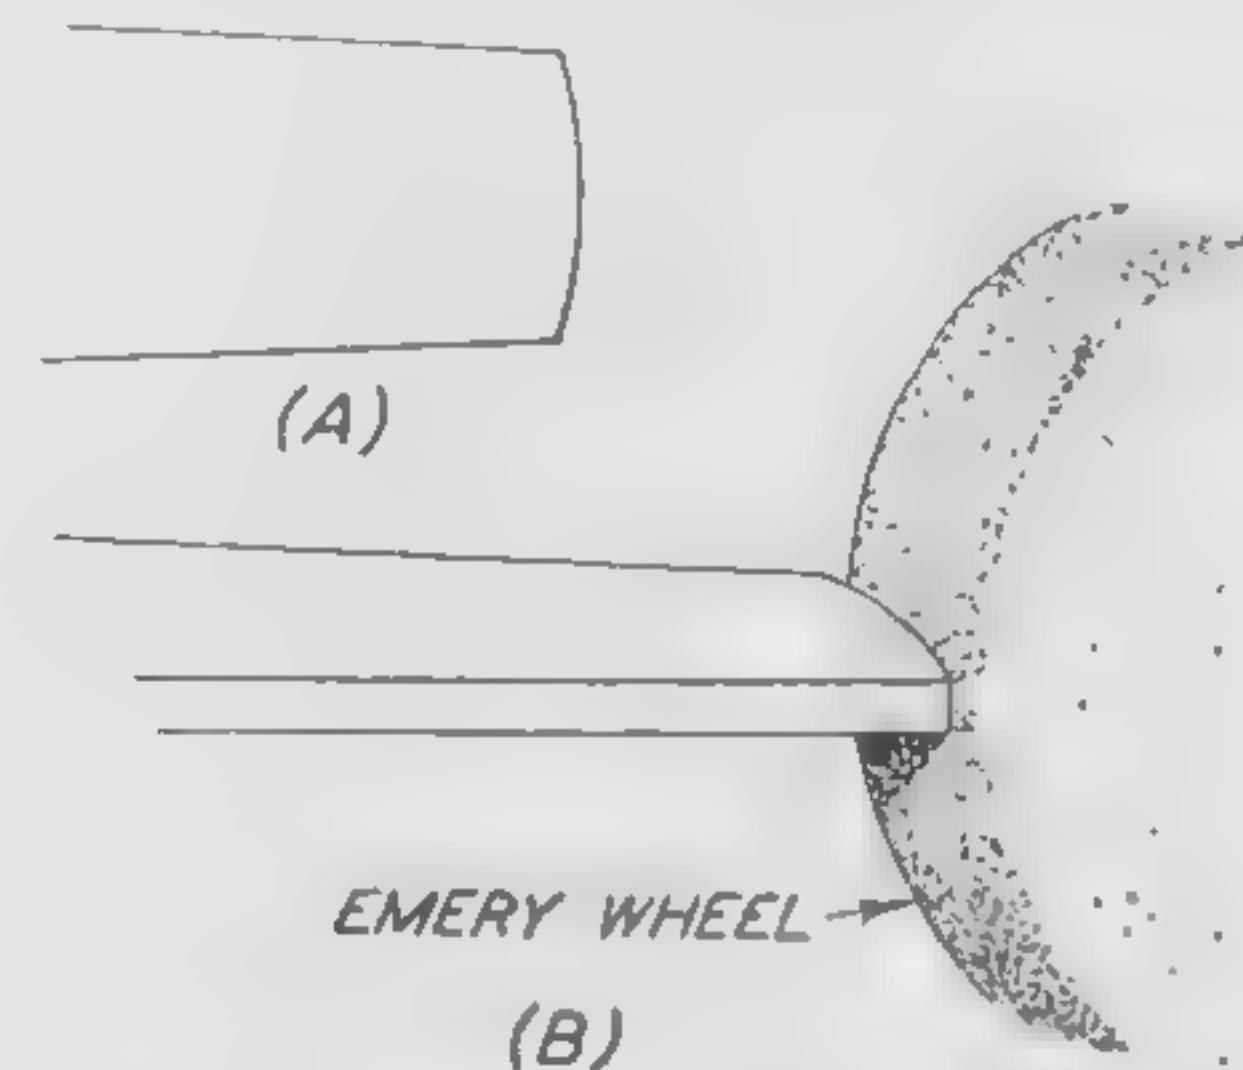

Fig. 23. Grinding a Scraper
2. Grind the flat side of the scraper to a slight curve as shown in Fig. 23 at (A) and the narrow side square as shown in Fig. 23 at (B). The scraper should be stoned by pivoting the handle end and swinging the blade end on the oil stone that has previously been soaked with gasoline. To avoid grooving the stone, use the entire surface. The scraper need be ground only after being stoned twenty or thirty times.